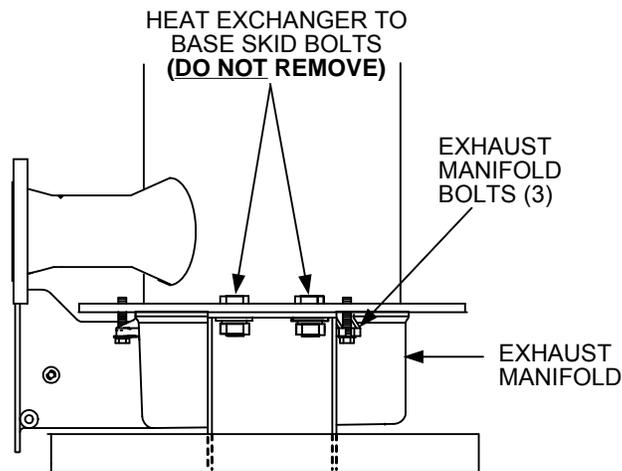

Figure 7. Benchmark 2.0LN Exhaust Manifold Location
The exhaust manifold of the Benchmark 2.0 is located at the rear of the unit as shown in Figure 7. Perform the following steps to remove, inspect and replace the manifold from the unit:
3. Using a 3/4" socket wrench, remove the three bolts securing the exhaust manifold to the heat exchanger (Figure 7).
8. Align the exhaust manifold with the lower heat exchanger flange and secure it in place using the three (3) bolts removed in step 3. Alternately tighten the bolts to obtain a uniform seal.